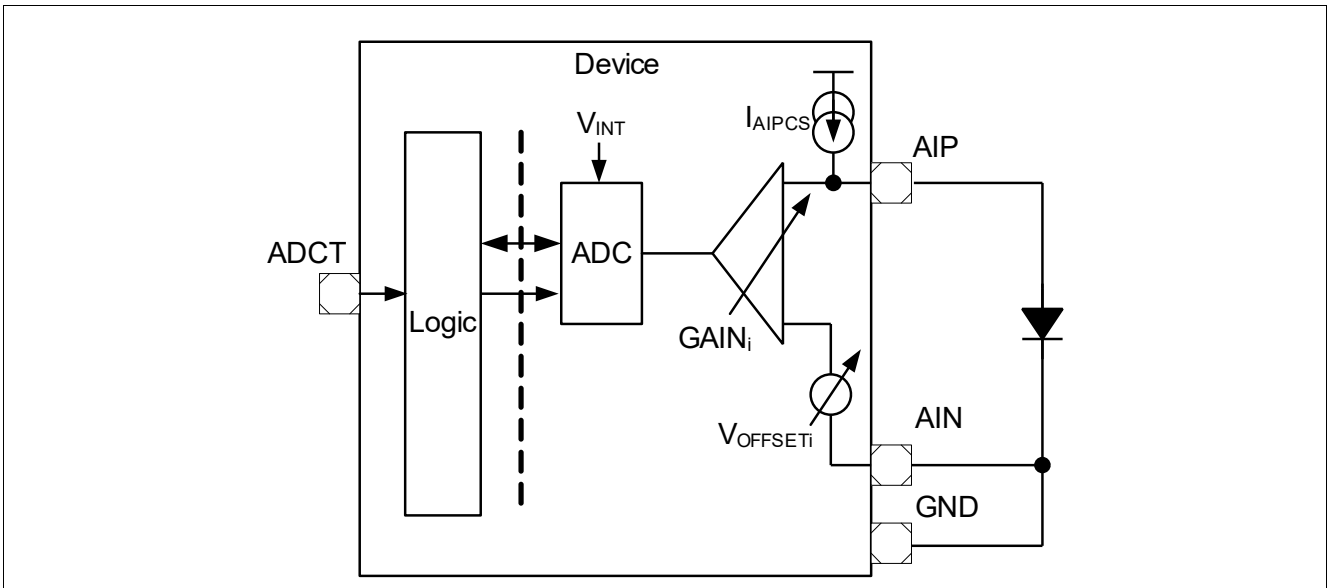

Figure 19 Application example: Diode measurement
- Measuring a temperature diode integrated into the IGBT (**Figure 19**)